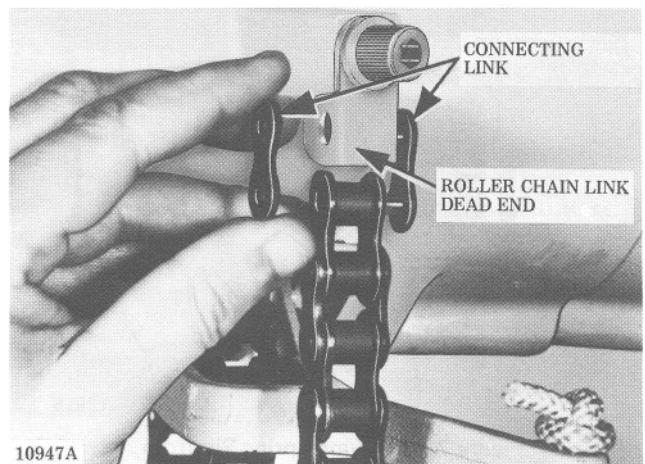

Figure 7-1. Removing Connecting Link at Tail End of Load Chain (Roller Chain Models).
(3) **Roller Type Load Chain.** Visually check for possible twists, broken links, wear or elongation. Check roller chains for elongation from wear by pulling chain taut and measuring as follows: On RC-625 or H-5 size chain (5/8" pitch), measure distance over a length of 20 pitches (center-to-center distance between 21 rivets) - it must not exceed 12-3/4 inches. If chain exceeds this limit, replace damaged section or install new load chain assembly. Check chain for twist. If twist in any 5' extension exceeds 15°, replace chain. Check chain for camber. If any section has side bow exceeding 1/4" in five feet, replace chain. Use only factory approved chain. If chain is to be spliced to replace damaged section, it is recommended that this be done by a recognized CM Repair Station, since splicing link must have a spun head requiring special tools. Spring link must not be used except to secure the tail chain to the hoist frame. (See Figure 7-1.)
- (1) On models with single reeved load chains (1/4, 3/8 and 1/2 ton), disconnect end of load chain from tail end anchor boss at side of hoist frame. Remove chain anchor, by prying off spring clip and remove connecting link, attaching chain to anchor boss on roller chain models (Figure 7-1). Remove socket head cap screw, holding end